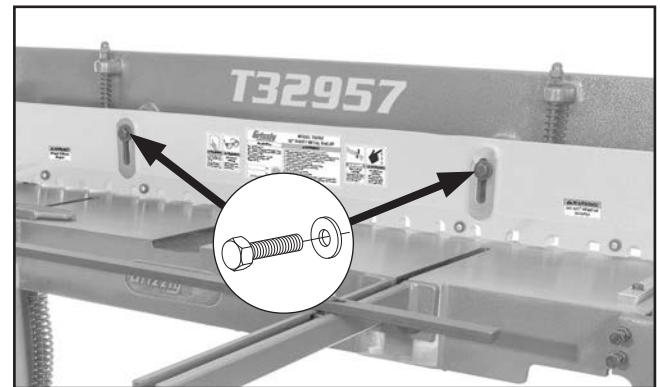

Figure 40. Location of blade guard hex bolts.
1. Loosen (2) blade guard hex bolts (see **Figure 40**).